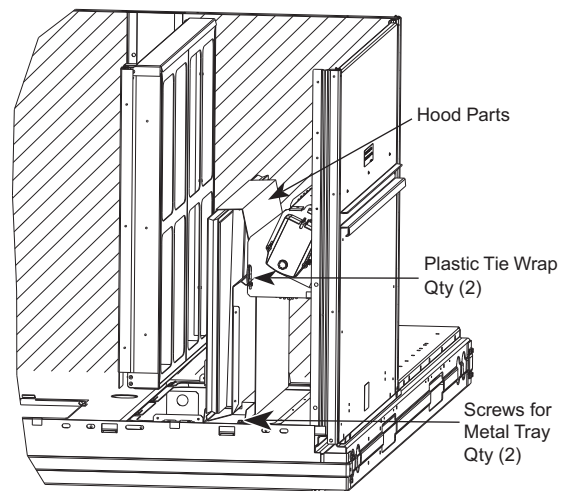

Fig. 14 — Economizer Hood Parts Location
2. Locate the (2) screws holding the metal tray to the basepan and remove. Locate and cut the (2) plastic tie-wraps securing the assembly to the damper. (See Fig. 14.) Be careful to not damage any wiring or cut tie-wraps securing any wiring.